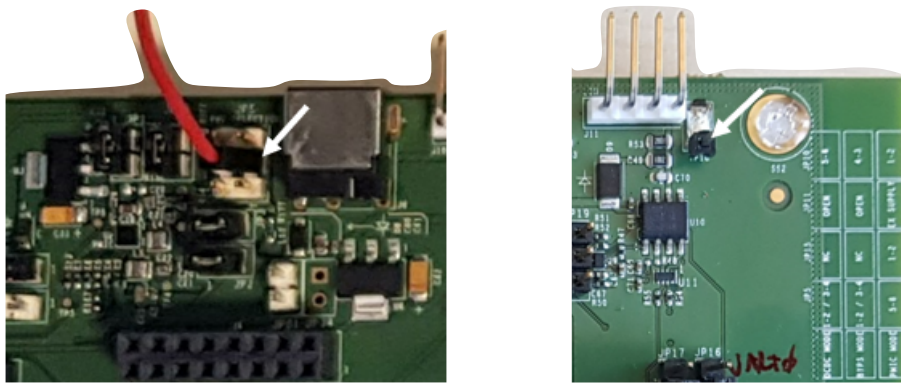

Figure 18. JP5-3, GND TP18
4. Connect TP18 (GND) to the power source, see Figure 18.
5. Connect the Keysight CX3322A power analyzer and CX1101A current probe to JP5-3 and to the power source, Figure 18.